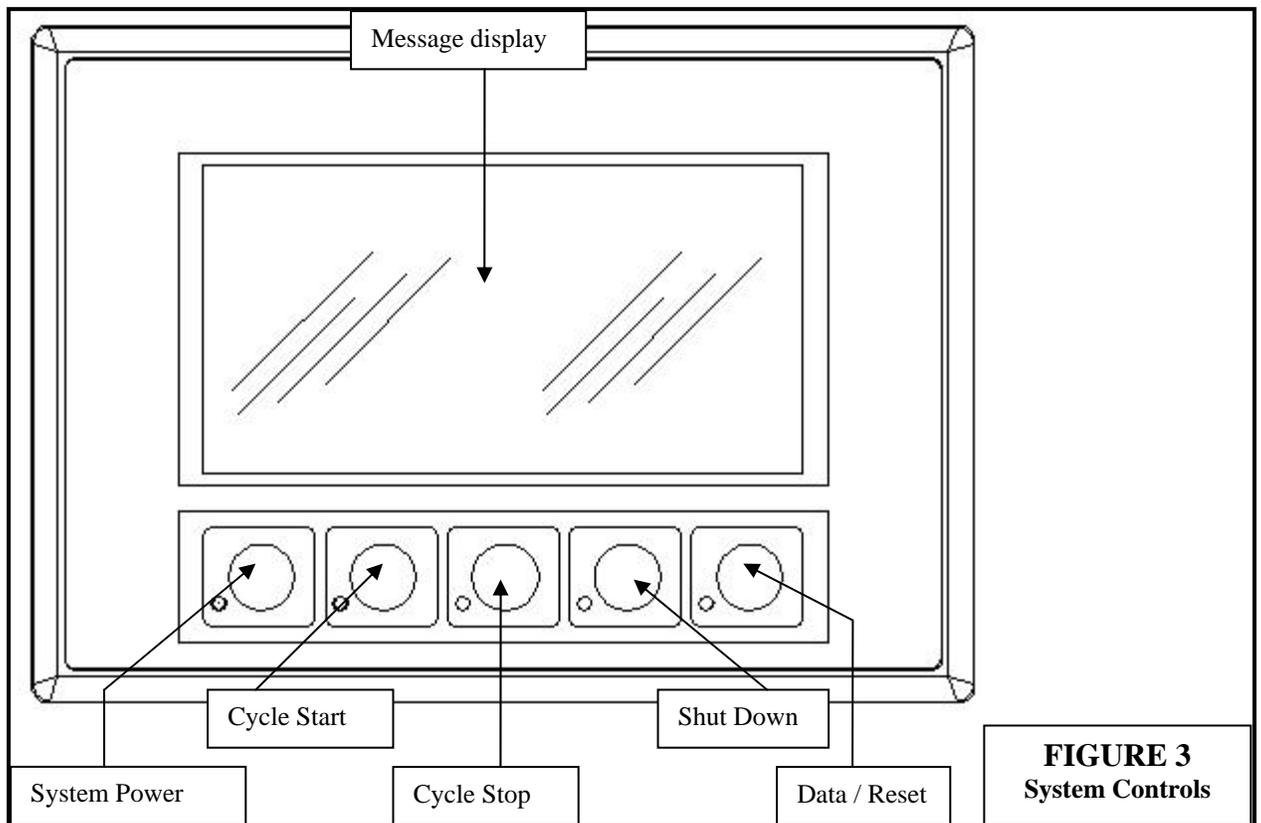

FIGURE 3
4.7 The system is in the “Home” state and waiting for the SYSTEM POWER control button to be pushed. Refer to Figure 3 on page 8. Observe the following:
4.9 Actuate the CYCLE START button to start the cycle. Refer to Figure 3. Observe the following:
4.11.3.1 “Plasma Time” is the default message to be displayed. The other readings are iterated by actuating the DATA/RESET control button. Refer to Figure 3 on page 8.
- 6.1 Any activated system alarm will cause the touch screen message display background color to flash red. Refer to figure 3 on page 8.